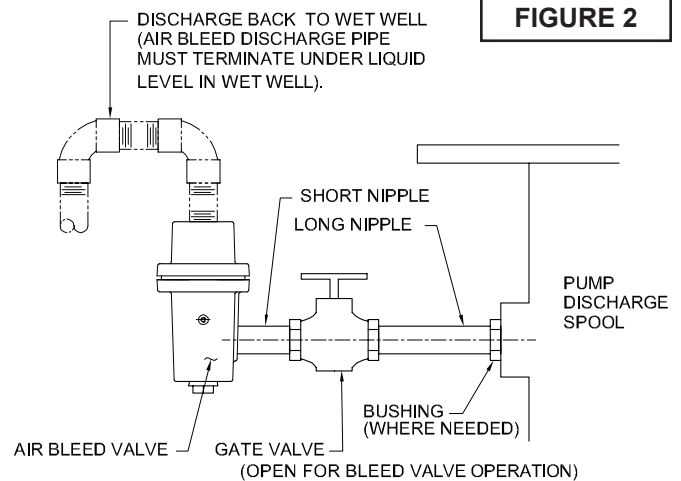

FIGURE 2
1. The air bleed line (item 12 & 13) should 1-1/4 inch on 8 and 10 inch pumps in order to reduce the priming time to a minimum. This is mandatory on force main installations.
3. An optional air-bleed valve may be placed in this line, but it is not necessary, See Figure 2. A clear plastic line is excellent, allowing the operator to detect any clogging.
4. There are two ways (item 12) & (item 13) of returning this line to the pit: (a) The line discharging above the liquid level (item 12). (b) The line discharging below the low liquid level (item 13). The (a) condition is generally accepted, but has the disadvantage of losing its prime if the suction check valve is held open by debris. This is generally no problem at higher speeds (1600 rpm or higher). The (b) condition works well for slower speeds where considerable debris is encountered.